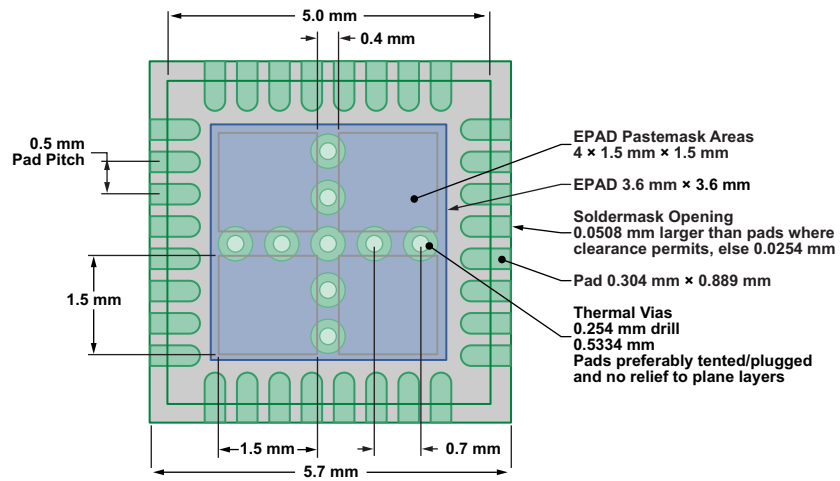

Figure 38. Transceiver Footprint
- Solder the exposed paddle underneath the transceiver effectively to the PCB where it is locally connected to the ground plane. Figure 38 shows transceiver foot print, recommended solder mask (matching exposed paddle), paste mask (dividing exposed paddle), and stitching of the ground plane.